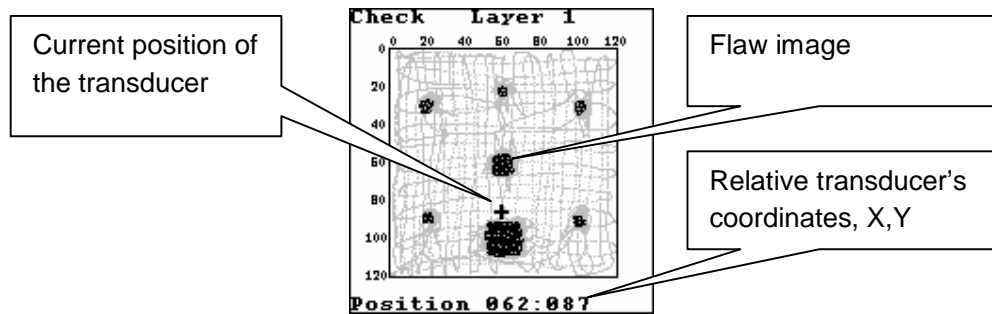

Fig. 35
10. Perform the indications of the previous item (9) for the rest of corners. Device will self-calibrate the position estimation system according to the given settings and turn the threshold check mode on (Fig. 35). In the case if:
- Place the transducer on the object under test and move it along the object surface at any appropriate speed (up to 100 mm/s). Pay special attention to provide good contact between the transducer and the object's surface. At the end of scanning process the threshold image of all flaws detected is drawn in black on the screen. The trajectory of transducer movement is drawn in light gray. DAMI-C HA01 allows parallel inspecting of up to three layers. One of the layers is shown on the Display (Fig. 35). To switch between layers, press LEFT (RIGHT) key.